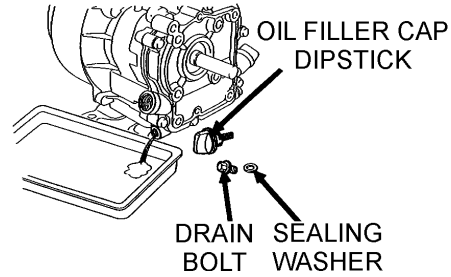

Figure 19. Oil Drain
1. Drain the engine oil when the oil is **warm** as shown in Figure 19.